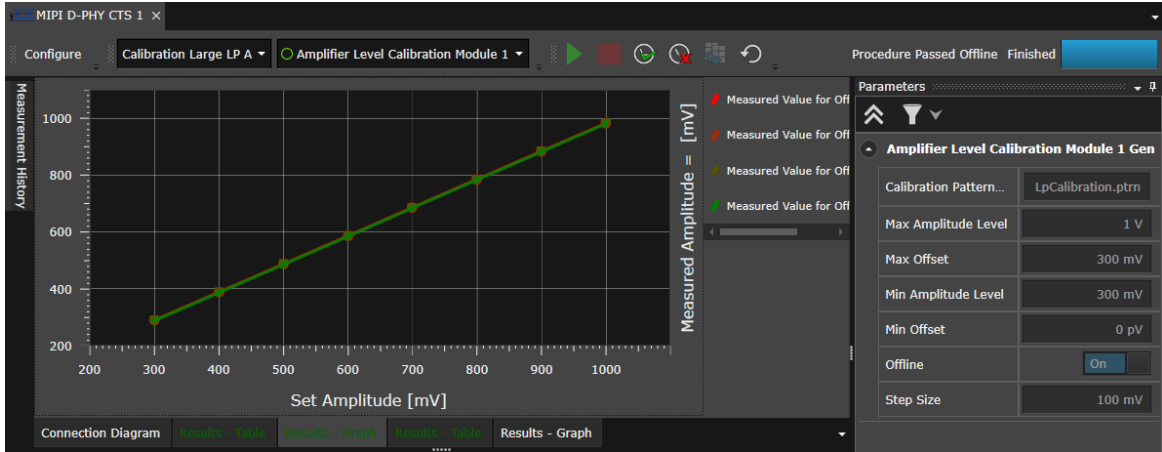

Figure 14 Graphical view for results
- Results (Graphical view): It shows the graphical results for some procedures, i.e. measured values for calibrations and tested values for the tests. For example, Figure 14 shows a sample graphical result for the respective Calibration performed.